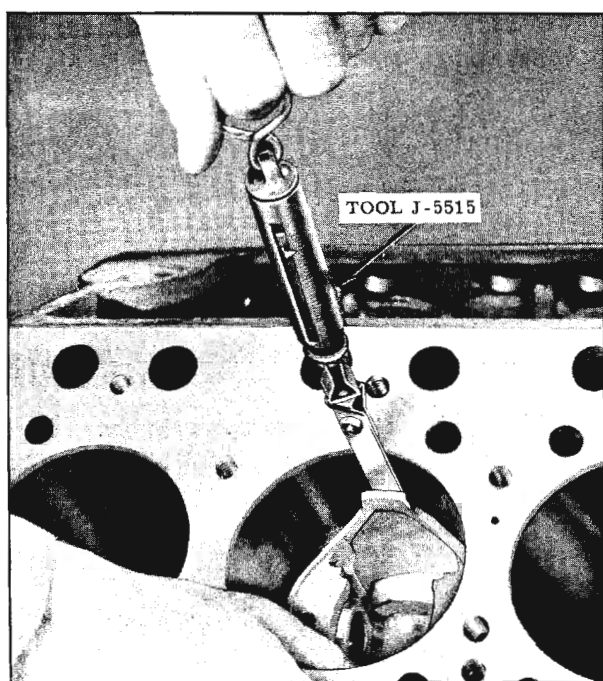

Fig. 8-26 Fitting Piston to Cylinder
1. Place a 1/2" x 12" x .0015" ribbon attached to scale J-5515 against the upper side of the bore, at 90° to the normal piston pin location. (Fig. 8-26)